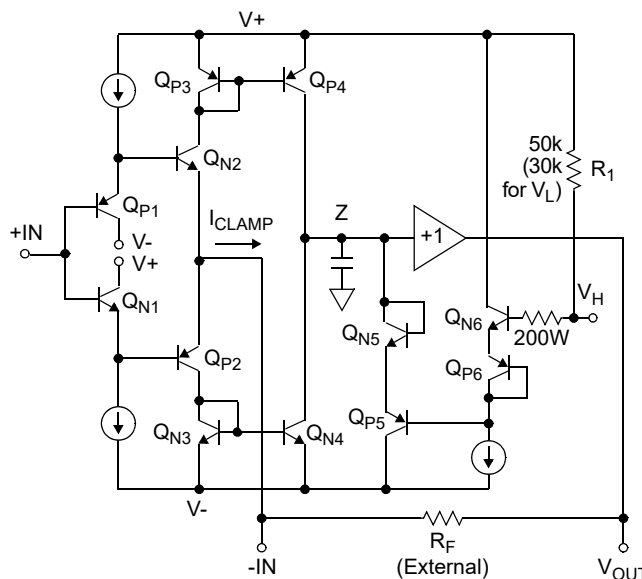

Figure 1. Simplified V_H Clamp Circuitry
Figure 1 shows a simplified schematic of the HS-1135RH input stage, and the high clamp (V_H) circuitry. As with all current feedback amplifiers, there is a unity gain buffer ($Q_{X1} - Q_{X2}$) between the positive and negative inputs. This buffer forces $-IN$ to track $+IN$, and sets up a slewing current of $(V_{-IN} - V_{OUT})/R_F$. This current is mirrored onto the high impedance node (Z) by $Q_{X3}-Q_{X4}$, where it is converted to a voltage and fed to the output via another unity gain buffer. If no clamping is utilized, the high impedance node may swing within the limits defined by Q_{P4} and Q_{N4} . Note that when the output reaches its quiescent value, the current flowing through $-IN$ is reduced to only that small current ($-I_{BIAS}$) required to keep the output at the final voltage.
The clamped output voltage will not be exactly equal to the voltage applied to V_H or V_L . Offset errors, mostly due to V_{BE} mismatches, necessitate a clamp accuracy parameter which is found in the device specifications. Clamp accuracy is a function of the clamping conditions. Referring again to Figure 1, it can be seen that one component of clamp accuracy is the V_{BE} mismatch between the Q_{X6} transistors, and the Q_{X5} transistors. If the transistors always ran at the same current level, there would be no V_{BE} mismatch, and no contribution to the inaccuracy. The Q_{X6} transistors are biased at a constant current, but as described earlier, the current through Q_{X5} is equivalent to I_{CLAMP} . V_{BE} increases as I_{CLAMP} increases, causing the clamped output voltage to increase as well. I_{CLAMP} is a function of the overdrive level ($V_{IN} - V_{OUTCLAMPED}$) and R_F , so clamp accuracy degrades as the overdrive increases, or as R_F decreases. As an example, the specified accuracy of $\pm 60\text{mV}$ for a 2X overdrive with $R_F = 510\Omega$ degrades to $\pm 220\text{mV}$ for $R_F = 240\Omega$ at the same overdrive, or to $\pm 250\text{mV}$ for a 3X overdrive with $R_F = 510\Omega$.